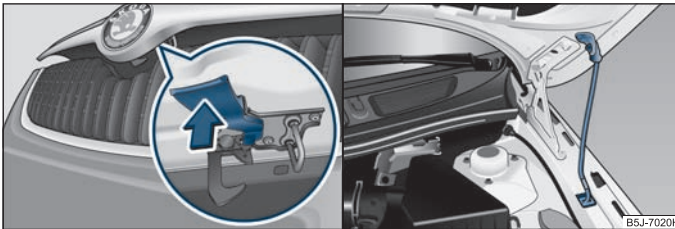

Fig. 139 Radiator grille: Locking lever / securing the bonnet with the bonnet support
- Pull on the locking lever ⇒ fig. 139 - left, the bonnet is then unlocked.
- Take the bonnet support out of its holder and set it in the opening designed for it ⇒ fig. 139 - right.